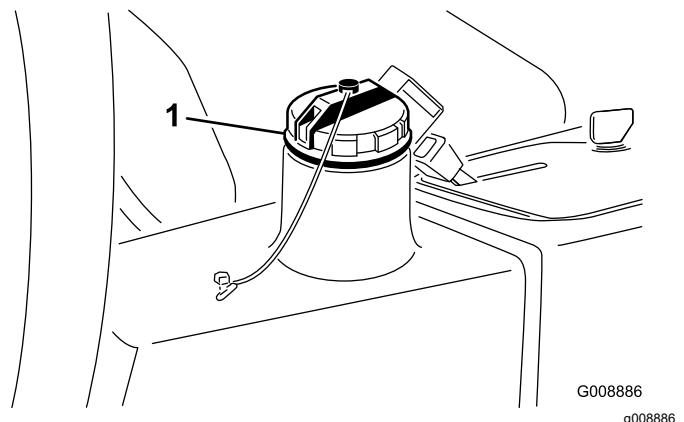

Figure 30
- Mobil EAL Envirosyn H 46 (US)
2. Clean the area around the filler neck and cap of the hydraulic tank (Figure 30). Remove the cap.